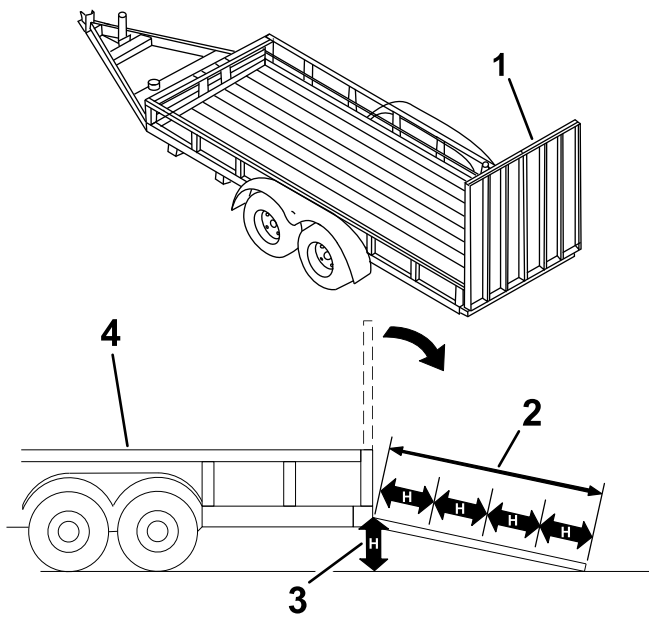

Figure 24
**Loading a machine onto a trailer or truck increases the possibility of tip-over and could cause serious injury or death (Figure 24).**
3. Lower the ramp (Figure 24).